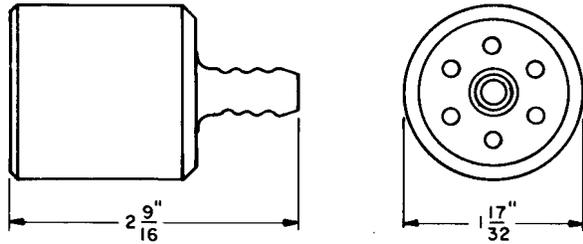

Fig. 7—454A Adapter Tool
**2.07 454A:** The 454A tool (Fig. 7) is a metal coupling used for connecting 1/4-inch rubber tubing to a vacuum cleaner hose.